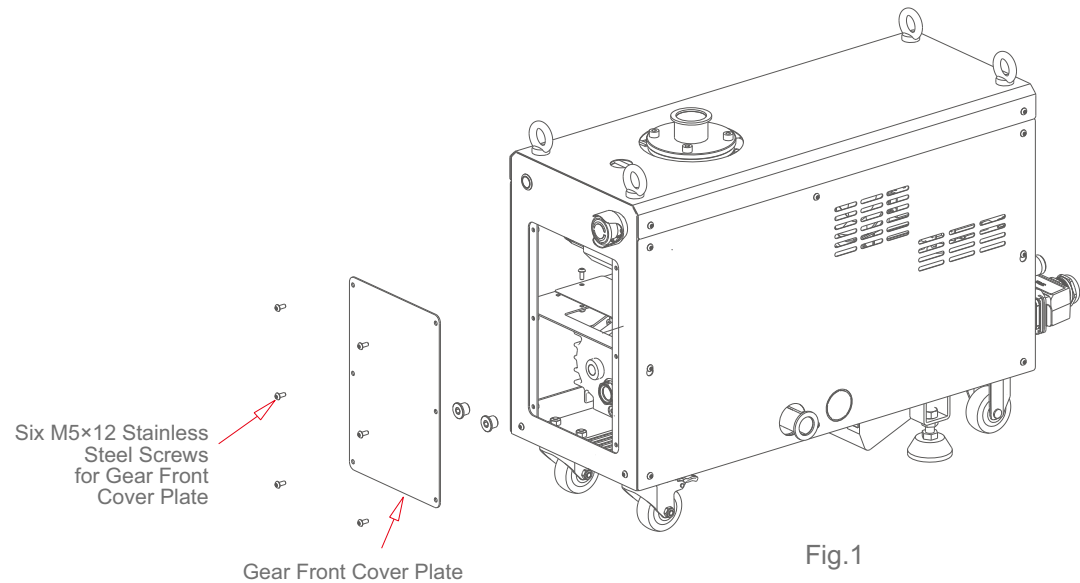

Fig.1
1. As shown in Figure 1, remove the six M5×12 stainless steel screws on the gear front cover plate.
Follow the steps in Figures 1, 2, and 3 to check for rotor jamming.